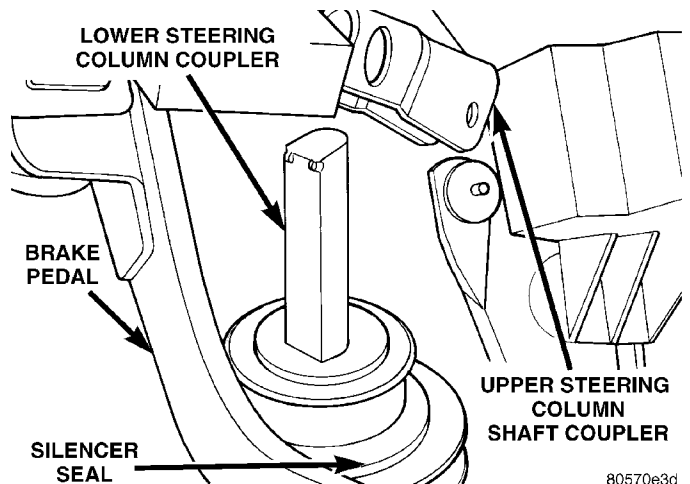

Fig. 4 Steering Column Coupling Seal
(3) Remove the silencer seal (Fig. 4) enclosing the steering column coupling.
(5) If steering coupling does not require replacement, install steering column coupling silencer seal (Fig. 4) back on vehicle.